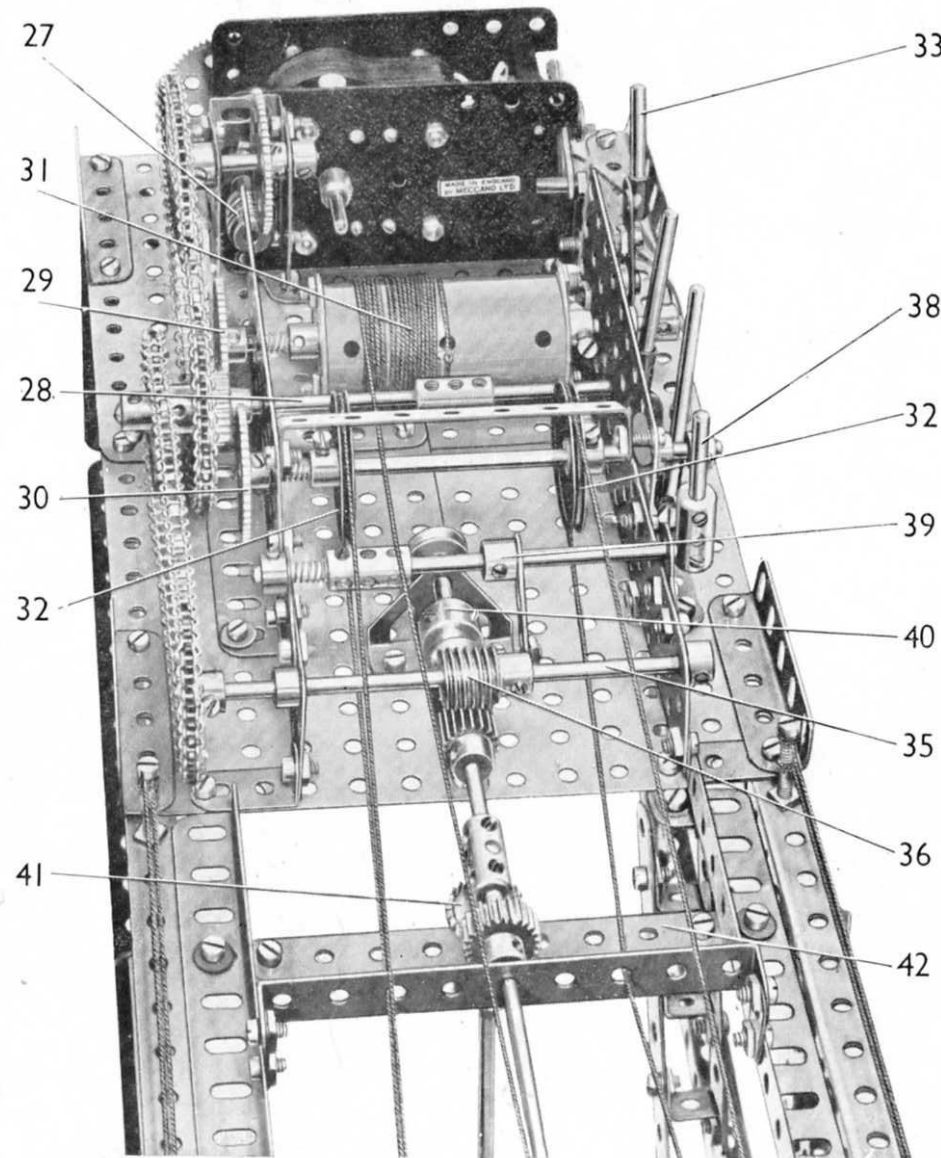

FIG. 9
A  $\frac{7}{16}$ " diameter Pinion on the Motor shaft drives a 60-tooth Gear on a  $2\frac{1}{2}"$  Rod supported in the side-plates. This Rod carries a Worm (27), which drives a 57-tooth Gear on a 2" Rod mounted in the 2" Flat Girders. A 2" Sprocket on this Rod is connected by Chain to a similar Sprocket on an axle (28) (Fig. 9) made from a  $3\frac{1}{2}"$  and a 2" Rod joined by a Coupling.
The axle (28) carries a  $\frac{3}{4}"$  Pinion, and the 50-tooth Gears (29) and (30) can be moved into mesh with this Pinion by sliding the Rods on which they are mounted. The Gear (29) is fixed on a 5" Rod that carries a winding drum (31) made from two Bush Wheels clamped at the ends of a Cylinder by nuts on two 3" Screwed Rods. A Compression Spring is fitted between the winding drum and one side of the gear-box as shown (Fig. 9). The Gear (30) is fixed on a 5" Rod fitted with two  $1\frac{1}{2}"$  Pulleys (32), with a Compression Spring placed between one of the Pulleys and the side of the gear-box. The Compression Springs normally hold the Gears (29) and (30) clear of the  $\frac{3}{4}"$  Pinion, but they can be moved into mesh by operating levers. Each lever is a  $2\frac{1}{2}"$  Rod in a Rod and Strip Connector, which is lock-nutted to a lug of a